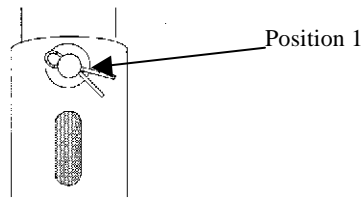

Figure 35
1. Position the upper tube in the switch shaft, placing the anchor bolt in the upper cylindrical hole, position 1 of figure 35